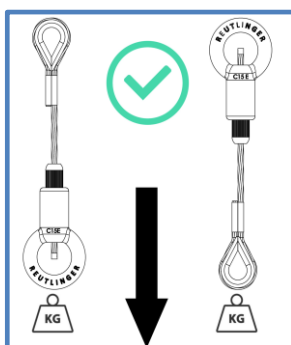

Fig. 1
2. There is no bound installation direction. (Fig.1)